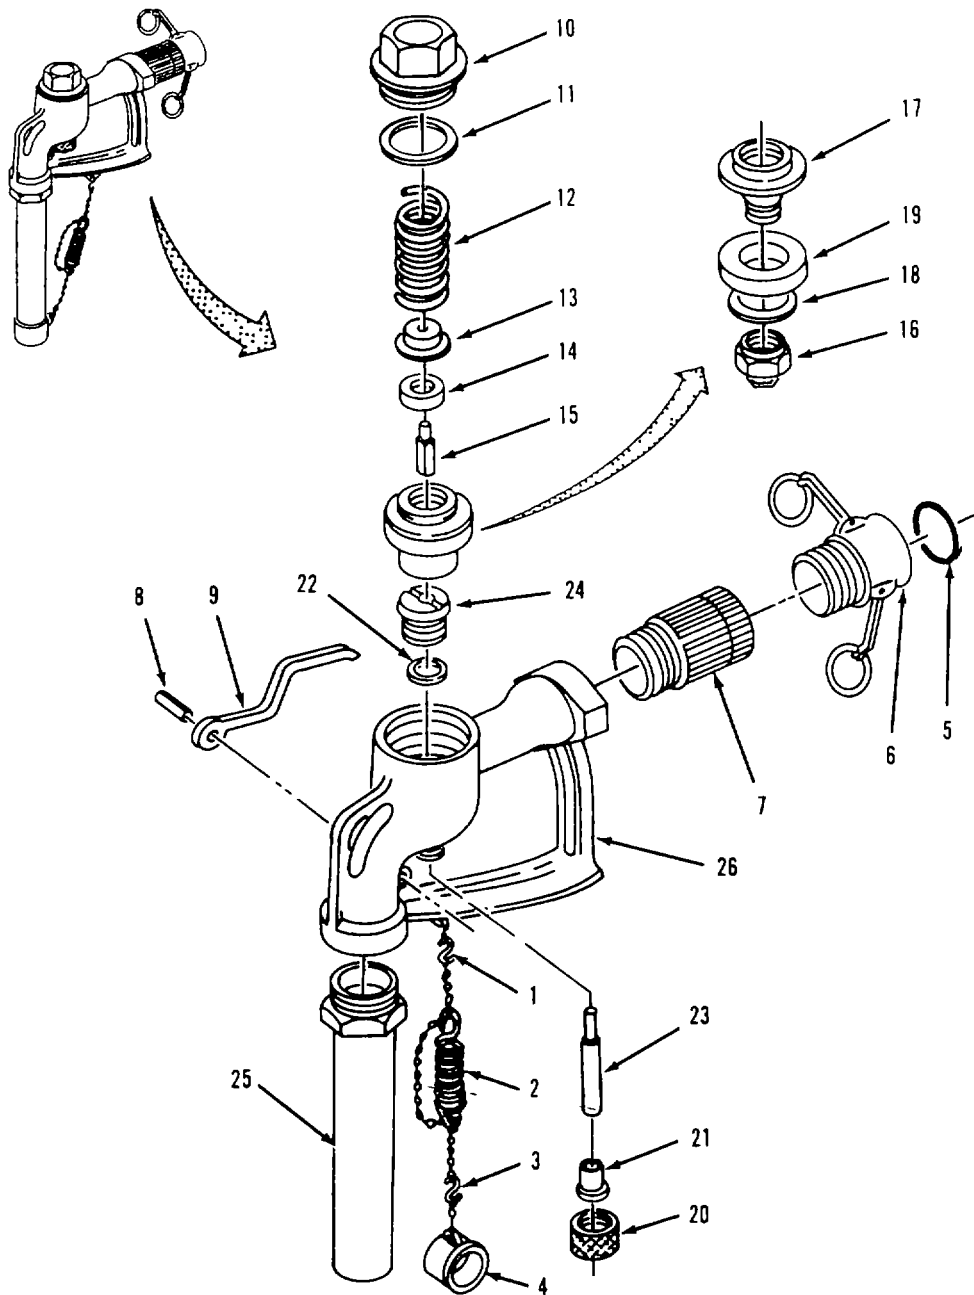

Figure 4-5. Distribution Nozzle (1 1/2-inch) Assembly.
- (1) Inspect body (26) for cracks and stripped or damaged threads.
- (2) Inspect handle (9) for cracks.
- (3) Inspect tube and adapter (25) for bends, cracks, and deformation.
- (4) Inspect stem (23) for scoring Check that stem is straight.
d. Repair. Replace damaged parts and all sealing components.**e. Assembly. Refer to figure 4-5.**
- (1) Screw tube and adapter (25) into body (26).
- (2) Install packing (22) in stuffing box (24), then screw stuffing box down into body (26).
- (3) Push stem (23) in through body (26) and into stuffing box (24).
- (4) Place packing gland (21) and packing nut (20) over stem (23). Tighten packing gland onto body (26)
- (5) Position disc (19) and washer (18) on holder (17). Screw disc nut (16) into holder (17).
- (6) Position assembled components (16 through 19) in body (26).
- (7) Position small disc (14) on disc holder (13) Screw disc guide (15) into disc holder.
- (8) Position assembled components (13, 14 and 15) in body (26).